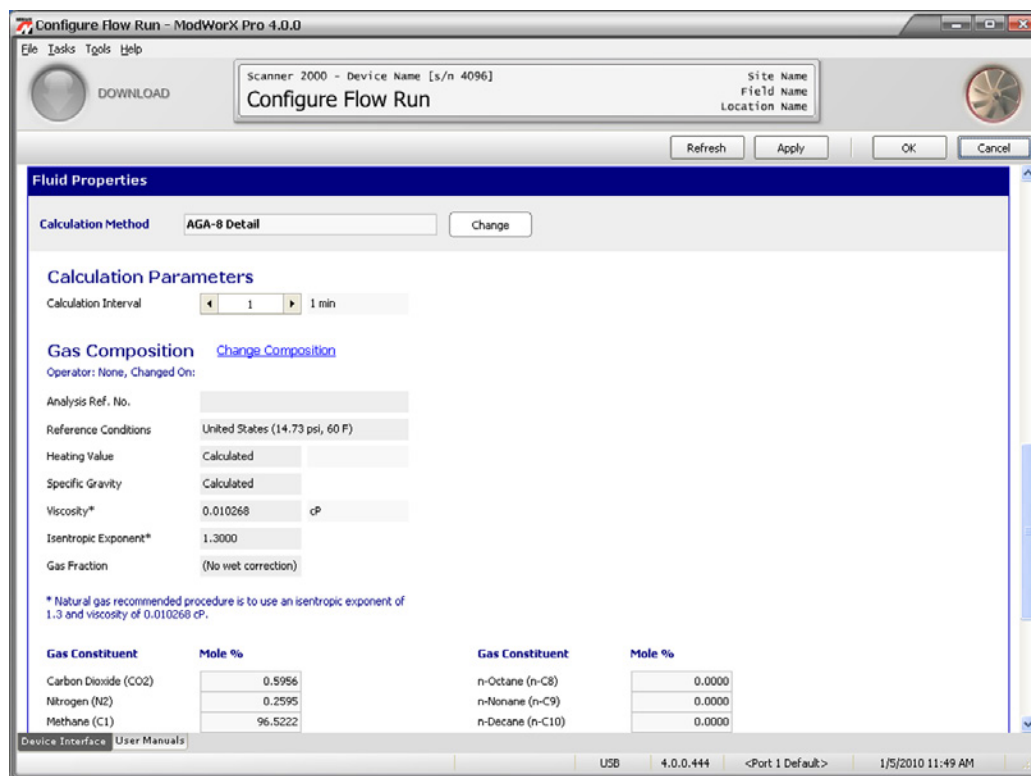

Figure 4.13
The contents of the Fluid Properties section of the Configure Flow Run screen vary, depending on the product being measured (gas, steam or liquid) and the fluid property calculation method selected. For example, when calculating gas flow with the AGA-8 Detail method, fluid property parameters include an extensive list of gas constituents (Figure 4.13, page 64). When the AGA-8 Gross method is used, only two gas constituents are configured. When calculating steam with a wet correction, only steam quality is configurable. Use the following steps to configure all fluid properties for the Scanner. When calculating liquid flow, density and viscosity values are configurable.
- a. If the flow run is configured for gas measurement, the Fluid Property section of the Configure Flow Run screen will display either Gas Composition information (AGA-8 Detail; see Figure 4.13), or Gross Method Parameters (AGA-8 Gross; see Figure 4.14, page 65). To change a parameter, click on the blue **Change Composition or Change Parameters** hyperlink and follow the screen prompts.